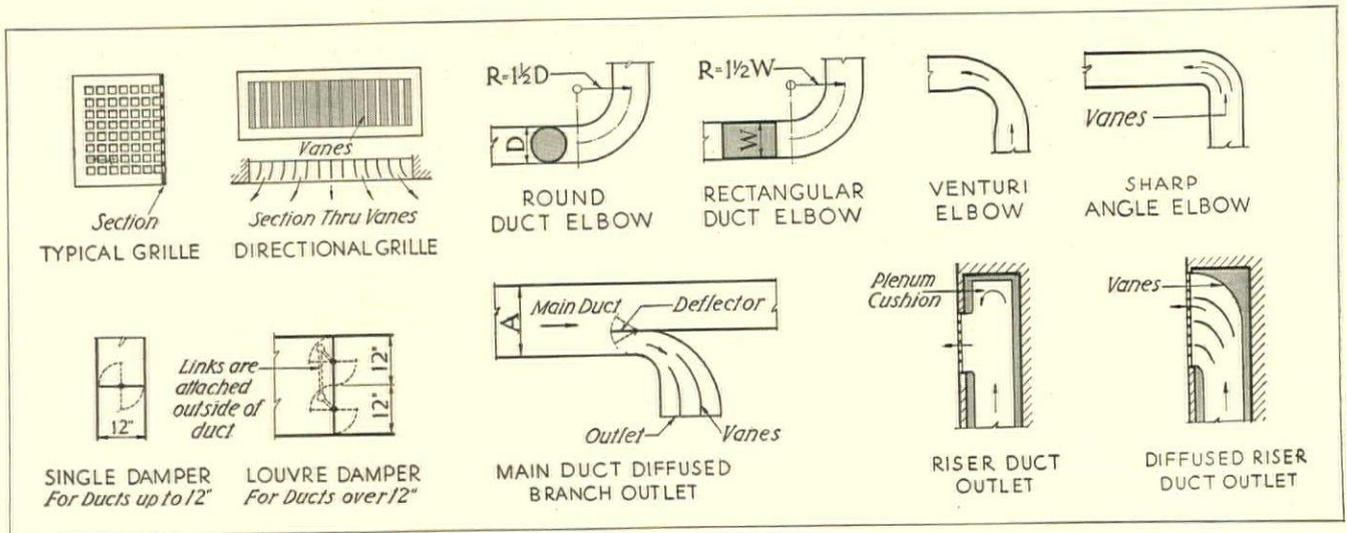

Fig. 8. Details of warm air heating and air conditioning ducts and outlets
Directional control is often advantageous as it may permit the use of outlet locations other than those theoretically ideal. The air is then caused to flow or diffuse into the desired zone by the shape of the vanes forming the grille face. See Fig. 8.
**Duct fittings** increase the resistance to the flow of air more than straight runs, hence their number should be kept to a minimum and all elbows or bends should be of the largest radius space limitations will permit. The radius to the center of the duct should not be less than one to one and one-half times the duct diameter. Special fittings are available to minimize loss of head at bends. These may be of the venturi or streamlined type or may be angle bends fitted with curved vanes or dividers as shown in Fig. 8. See manufacturers' data for their use.